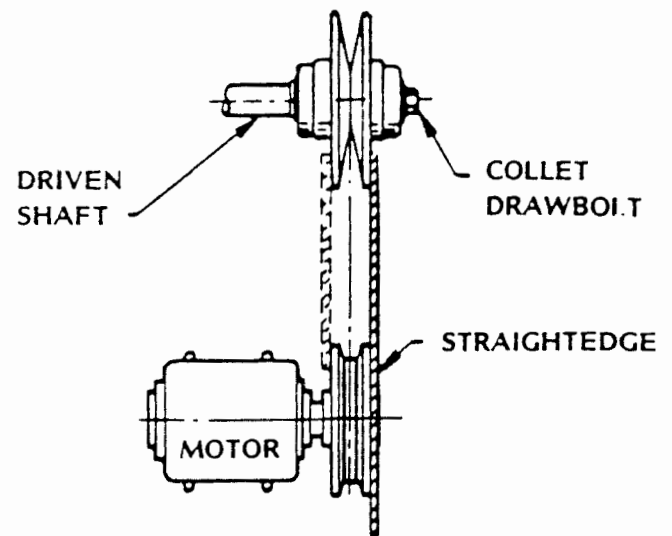

FIGURE 4
2. MOUNT 8800 PULLEY — *Mount 8800 pulley on driven shaft and line up with companion sheave using a straightedge as shown in Figure 4. Tighten drawbolt of collet.